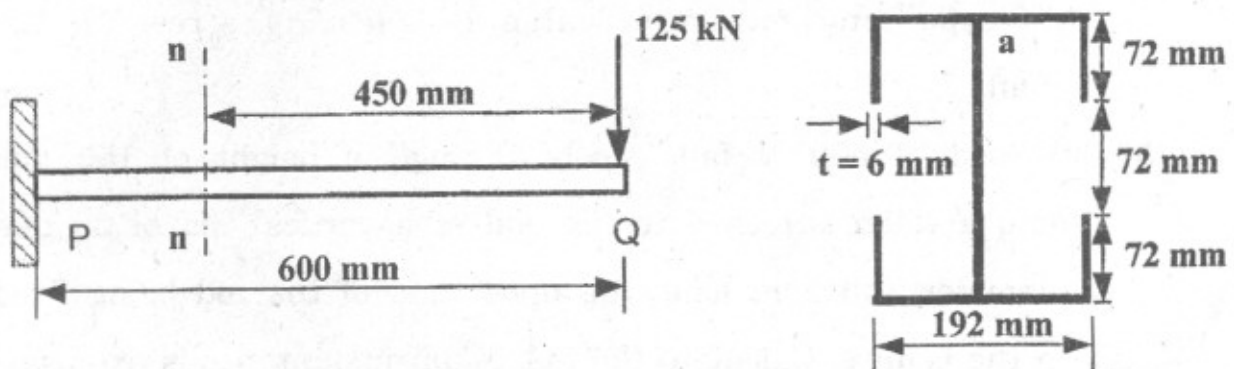

Fig. 8
- (b) For the beam and loading shown in Fig. 8, consider section n-n and determine : [8]